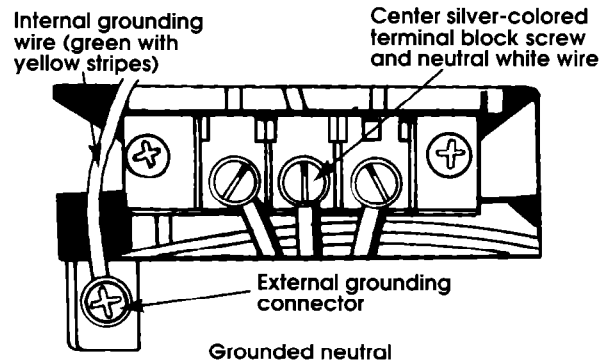

Figure 5
5. Connect the neutral wire (white) of the power supply cord to the center, silver-colored, terminal screw of the terminal block. Connect the other wires to the outer terminals. Tighten each screw firmly. See Figure 5. For plain-end wires, see "Direct wiring connection," Panel F.